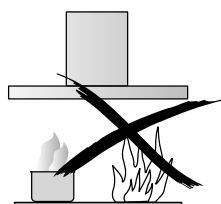

Fig. 2
- Do not leave lit gas burners exposed due to the risk of fire. (Fig. 2)